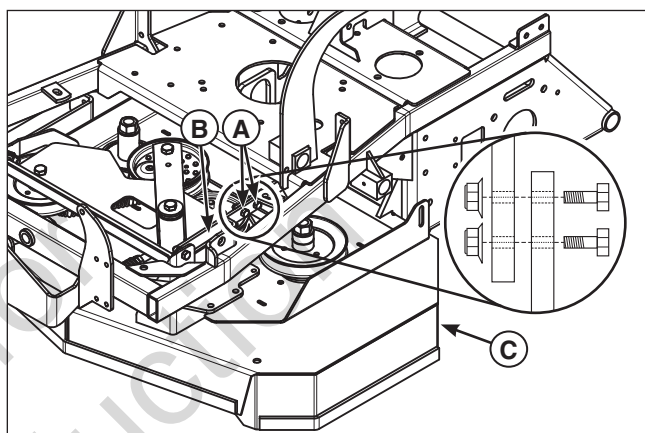

Figure 55. Disconnecting the Idler Arm Mount Plate
6. Loosen and remove the hardware (**A**, **Figure 55**) that secures the idler arm mount plate (**B**) to the mower deck (**C**).
7. Loosen and remove the 1/2" hardware (**A**, **Figure 55**) that secure the pusher rollers to the unit. Remove the pusher rollers from the unit.
5. Connect the idler mount plate (**B**, **Figure 55**) to the mower deck and secure using the 5/16" hardware (**A**).